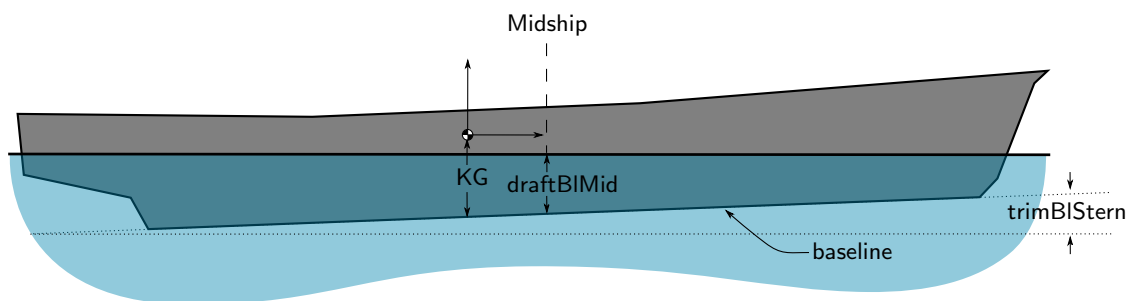

Figure 6: The static equilibrium state of a generic vessel.
- ☞ These fundamental parameters include static loading values, which, along with the detailed hull geometry, are used to automatically compute the displacement and longitudinal center of gravity (CG) of the vessel.
- ☞ The static loading parameters that define the equilibrium state, as indicated in Figure 6, are: